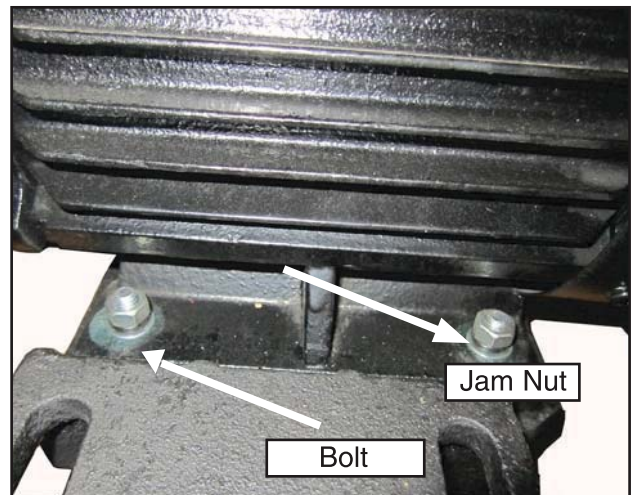

Figure 28. Motor mounting fasteners for adjusting V-belt pulley alignment (bottom rear access panel removed).
3. Loosen the fasteners that hold the motor to the brackets (see **Figure 28**) just enough to allow the motor to be repositioned.